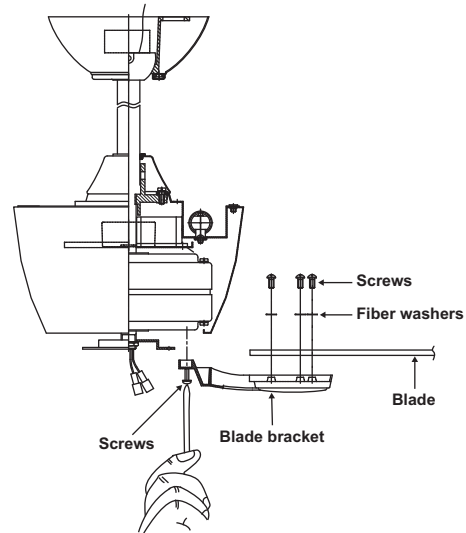

Figure 14
Step 1. Attach the blade to the blade bracket using the screws and fiber washers as shown in Figure 14. Start screw into bracket. Repeat for the two remaining screws.
Step 3. Fasten blade assembly to motor using the screws supplied. (Fig. 14)